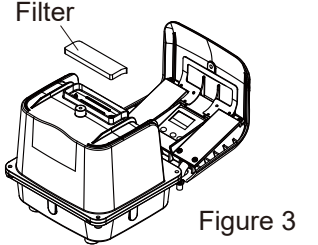

Figure 3
- ④Remove the filter from the upper housing and replace it with a new or clean one.(Figure 3)